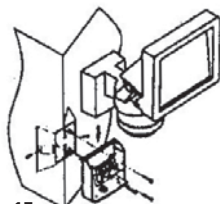

Fig. 15
- Proceed as for (Ae) above, finally fixing the corner mounting adapter and backplate assembly onto the corner using the 2 pan head screws supplied and wall plugs if necessary. The holes used are on the outside edges of the corner mounting adapter. (See Fig.15).